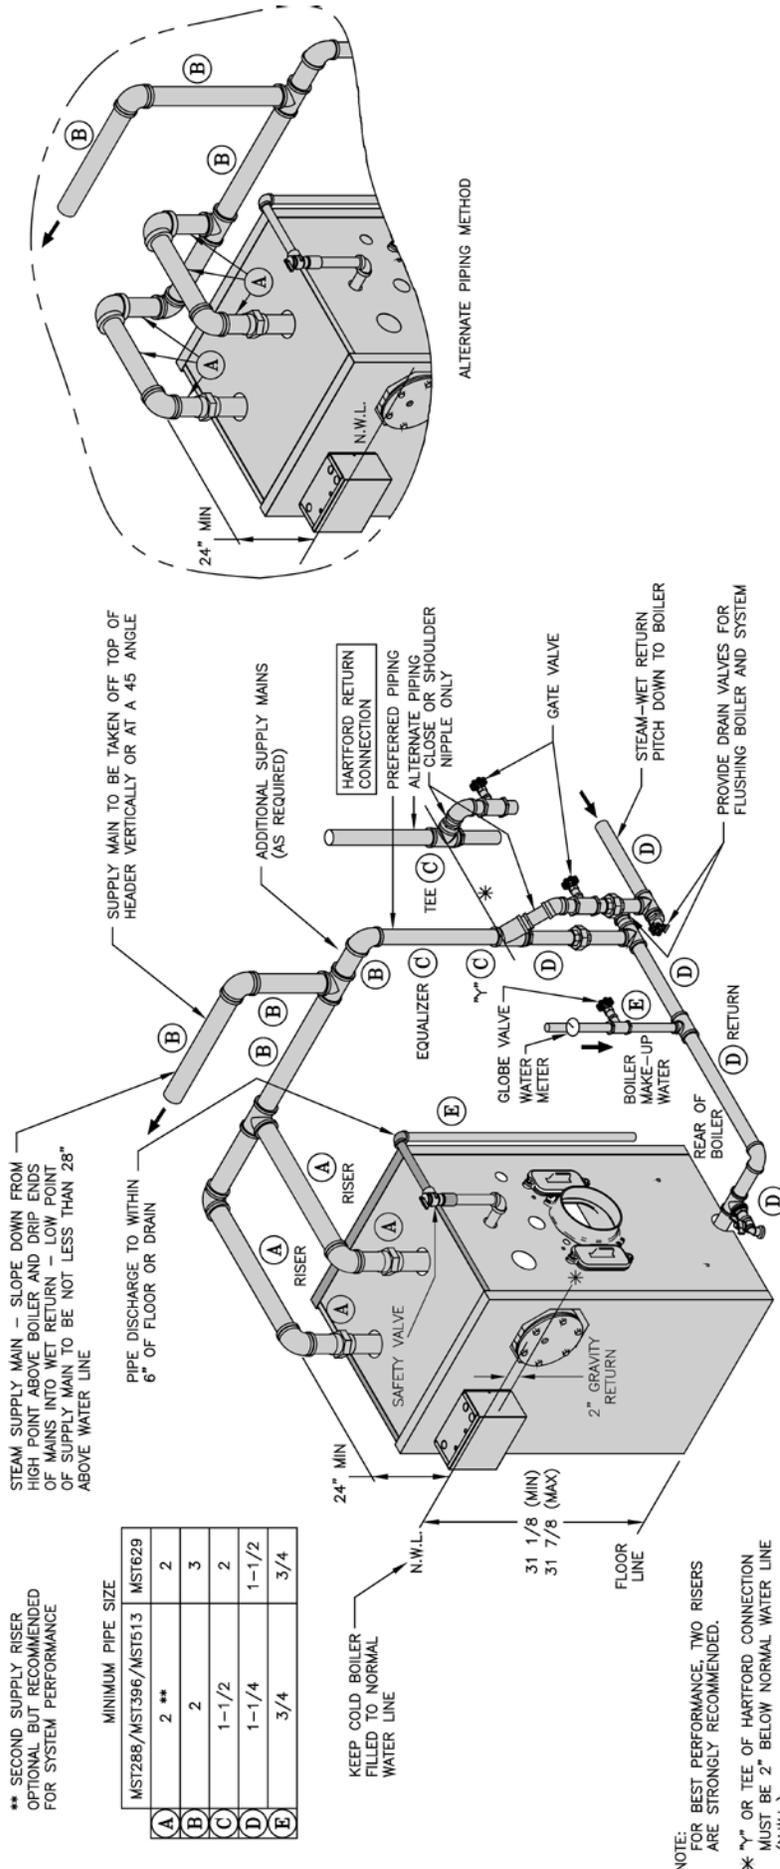

Figure 11: Recommended Boiler Piping for Gravity Return Steam Boiler
3. Thread safety valve into the 3/4" NPT black coupling. Pipe the safety valve discharge as shown in Figure 11 "Recommended Boiler Piping For Gravity Return Steam Boiler" shown in Section III of this manual. Installation of the safety valve must be consistent with ANSI/ASME Boiler and Pressure Vessel Code, Section IV.
B. CONNECT SYSTEM SUPPLY AND RETURN PIPING TO BOILER. See Figure 11 for piping details. Also consult I=B=R Installation and Piping Guides.